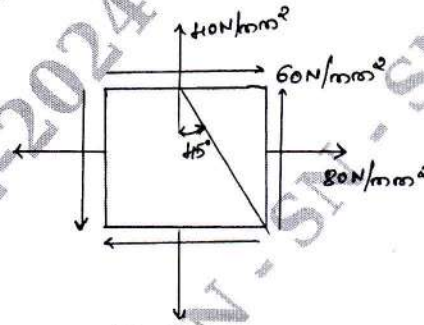

Fig.Q3
- 3 Stress acting on the strained material is as shown in Fig.Q3. Determine :